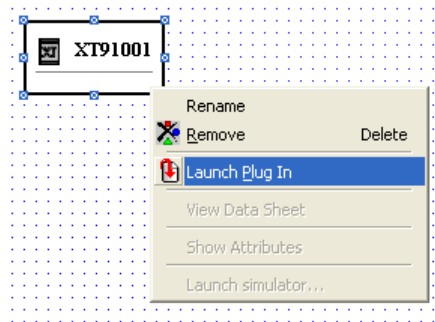

Figure 80: Launching XT/XP Configuration Plug-in
1. Right-click the Gateway object in the canvas and select Launch Plug In (Figure 80). The XT9100 window appears (Figure 81).